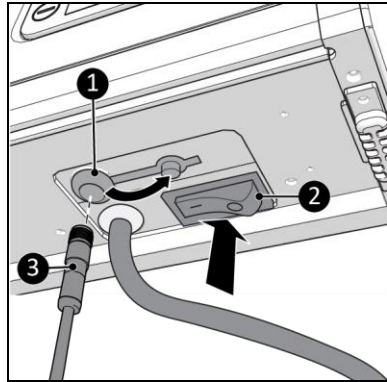

Figure 12
1. Make sure the ON/OFF switch is in the OFF position (Figure 12, pos. 2)
2. Connect the temperature sensor connector (Figure 12, pos. 23) to the sensor plug (Figure 12, pos. 1).